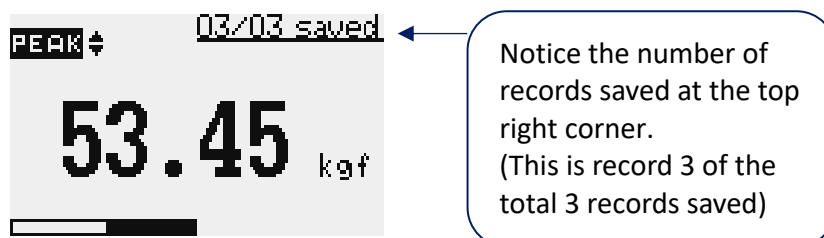

Figure 7a Memory Menu
3. Press the ENTER key to access the Memory Menu (See Figure 7a)